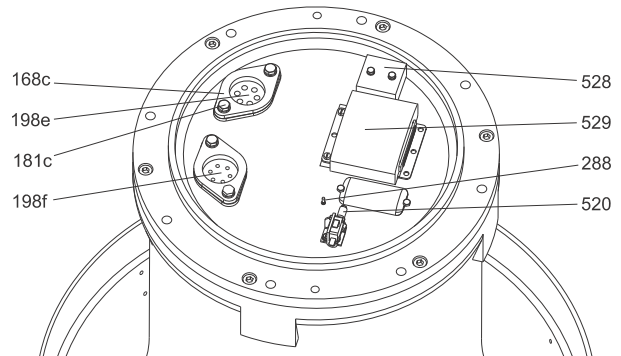

Fig. 72 Position of sensors, KPL 500-600
1. Mount the sensors according to fig. 72 or 73.
2. **KPL 650-800, KWM 600-700 only:** Mount the terminal board (pos. 176a) and fit the screws (pos. 176b) and tighten them according to section 7. *Tightening torques and lubricants*.